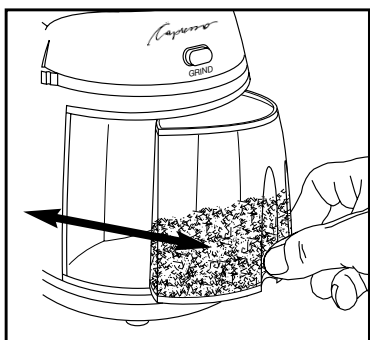
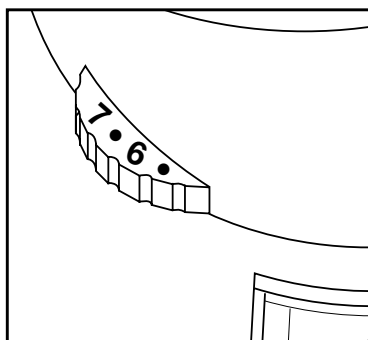
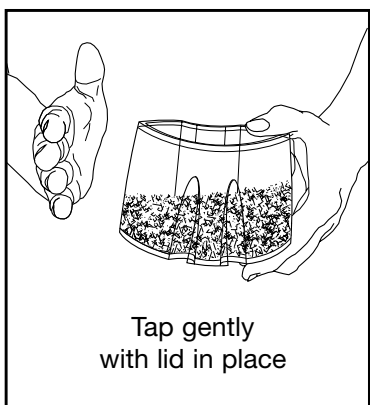

Fig. 4
Fig. 5
Fig. 6
1. Check the bean container (G) for presence of foreign objects before using.
2. Make sure the bean container (G) is completely clean and dry before using.
3. Always operate the appliance with the ground coffee container properly inserted in the grinder (C) and (Fig. 4).
4. **Caution: When grinding make sure the lid of the ground coffee container (Fig. 4) is secured!** If this lid is not securely in place, ground coffee can blow out of the grinder spout during grinding and create a mess on your countertop!
- a. Check to make sure that the bean container (G) is empty, clean, and dry, and free of any foreign objects.
- c. Set the fineness selector (D) to number "9" (Fig. 5).
5. Select the fineness setting (Fig. 5).
6. Turn the main switch on (F). The red light will illuminate.
9. While in the machine, tap the ground coffee container a few times. Now, slowly remove the container from the machine (fig. 4). Tap the container again a few times to release more of the "static" (fig. 6).
10. Clean the grinder spout (H) with the small cleaning brush to avoid coffee build up.
11. Insert the empty ground coffee container with the lid securely in place back into the machine (Fig. 4).
12. Turn the main switch (F) off.